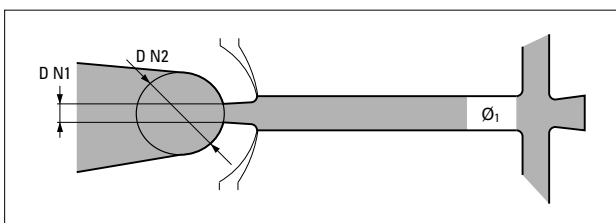

Fig. 4.12 Sprue and nozzle design often used with DELRIN®. The dimensions are linked with the dimensions of the part and of the runners
Nozzle and sprue diameters are directly linked with the dimensions of the part and of the runners. The designer should first decide if the sprue is needed or not. If yes, a design like the one shown in Fig. 4.12 could be selected, one that in many cases has proved to be the most effective with crystalline materials like DELRIN®. Due to its parallel cylindrical shape it is easy to machine and polish, allows large nozzle diameters, and it is easy to eject due to high shrinkage. Guidelines for the dimension are:
1. Cylindrical parallel sprue preferred: see Fig. 4.12 and Fig. 4.15-1.